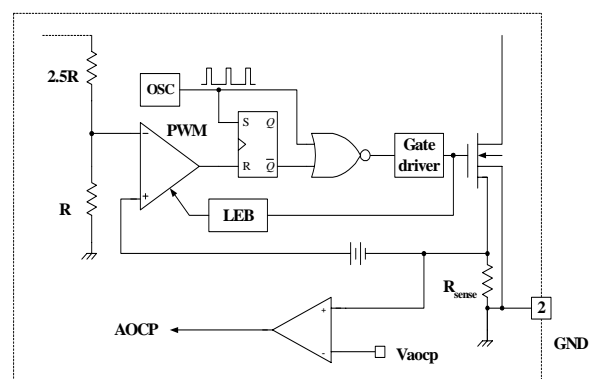

Figure 14. AOCP block
4.2 Abnormal Over Current Protection (AOCP) : When the secondary rectifier diodes or the transformer pins are shorted, a steep current with extremely high di/dt can flow through the SenseFET during the LEB time. Even though the FSCQ1265RT has OLP (Over Load Protection), it is not enough to protect the FSCQ1265RT in that abnormal case, since sever current stress will be imposed on the SenseFET until OLP triggers. The FSCQ1265RT has an internal AOCP (Abnormal Over Current Protection) circuit as shown in Figure 14. When the gate turn-on signal is applied to the power Sense FET, the AOCP block is enabled and monitors the current through the sensing resistor. The voltage across the resistor is then compared with a preset AOCP level. If the sensing resistor voltage is greater than the AOCP level, the set signal is applied to the latch, resulting in the shutdown of SMPS. This protection is implemented in latch mode.